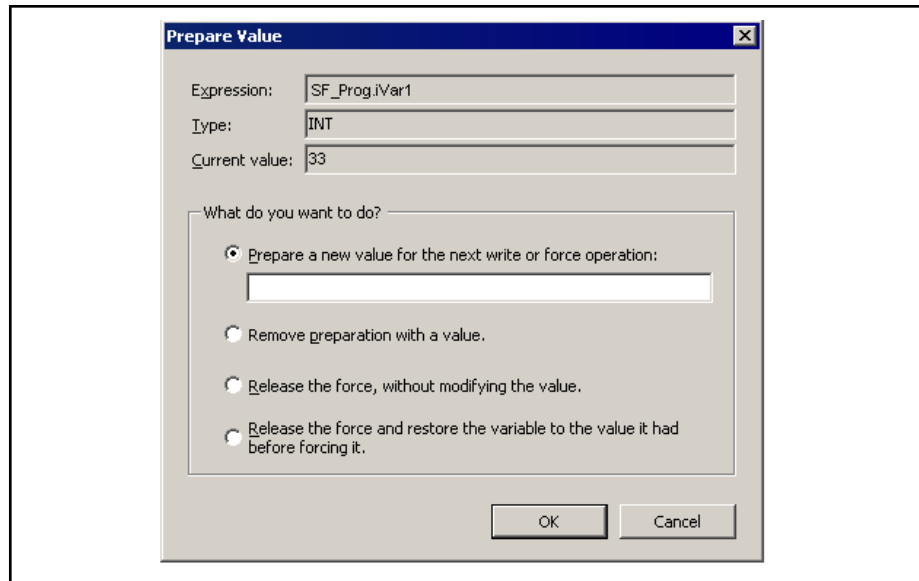

Fig. 8-16: Prepare Value
- fig. 8-16 "Prepare Value" on page 138